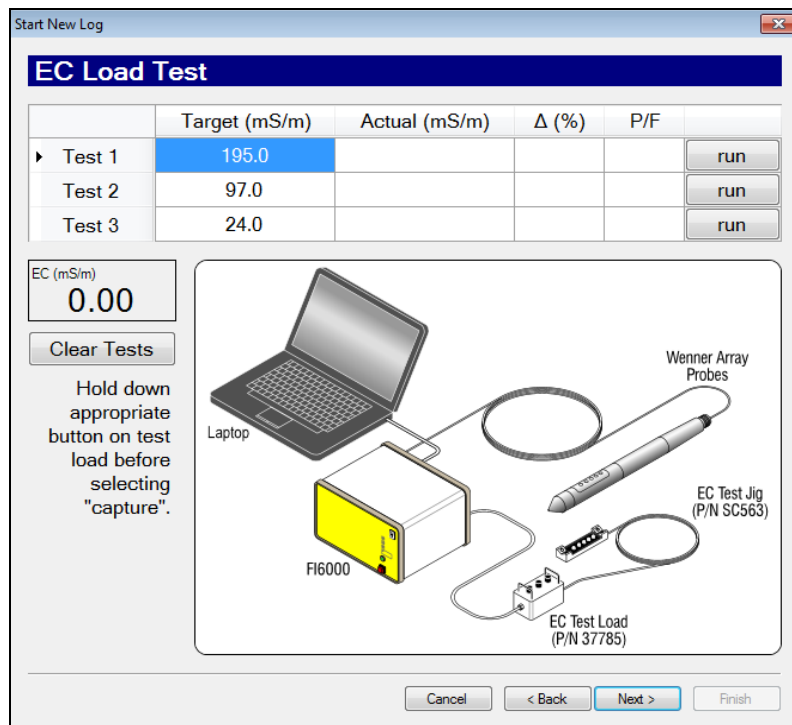

Figure 5.4: EC Load Test Screen
4. Place the EC Test Jig (214237) so that the four springs on the test jig touch the four dipoles of the Wenner EC array (Fig. 5.4). Make sure the trunkline and test jig wires go in the same direction. The other spring on the test jig will ground the probe body above the Wenner array. Make sure the springs are pulled out far enough to make a solid contact on the dipoles.
5. When you get to the EC Load Test Screen and the EC test load and test jig are in place on the probe press down on the test 1 button on the test load and select “run” of Test 1 (Fig. 5.4). After 5 seconds the actual value will acquire and will pass if within 10% of the target value. Continue on with Test 2 and 3.